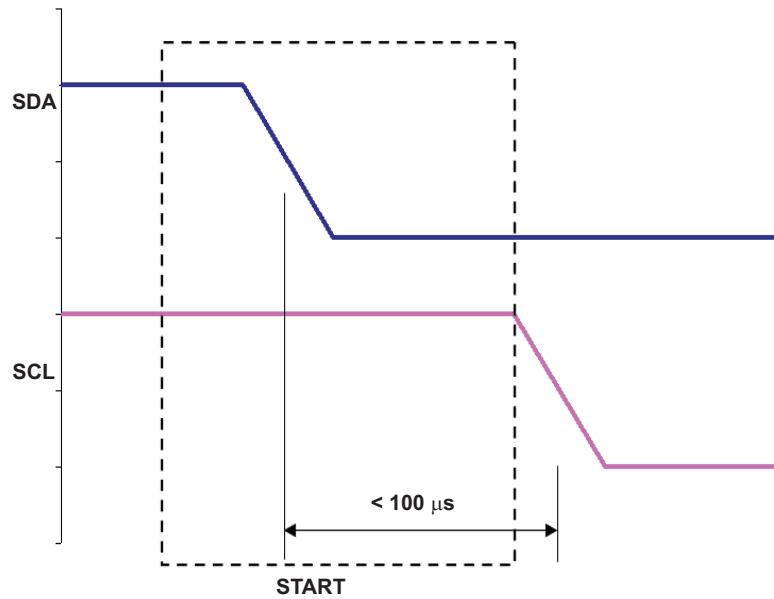

Figure 5. START Bit Requirement
- START bit (Figure 5): SCL must fall within 100 μ s of SDA falling.